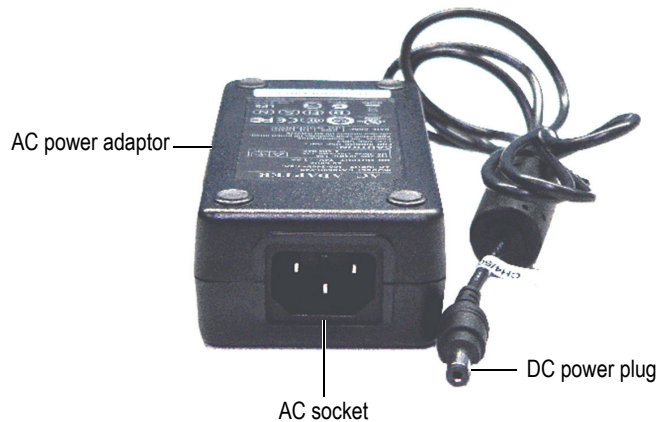

Figure 3-4 AC power adaptor
2. Insert the other end of the AC power cord into the AC socket on the AC power adaptor (see Figure 3-4 on page 60).